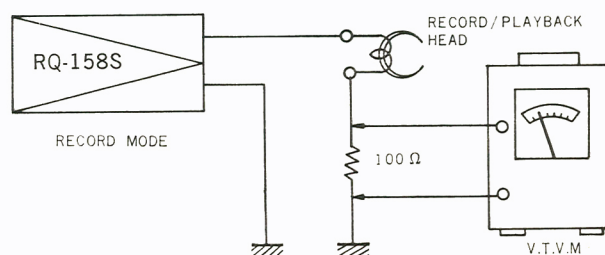

Fig. 4
Measuring Circuit: Refer to Fig. 4
1. As shown in Fig. 4, insert $100\ \Omega$ resistor to ground lead wire of Record Head and connect VTVM across resistor.